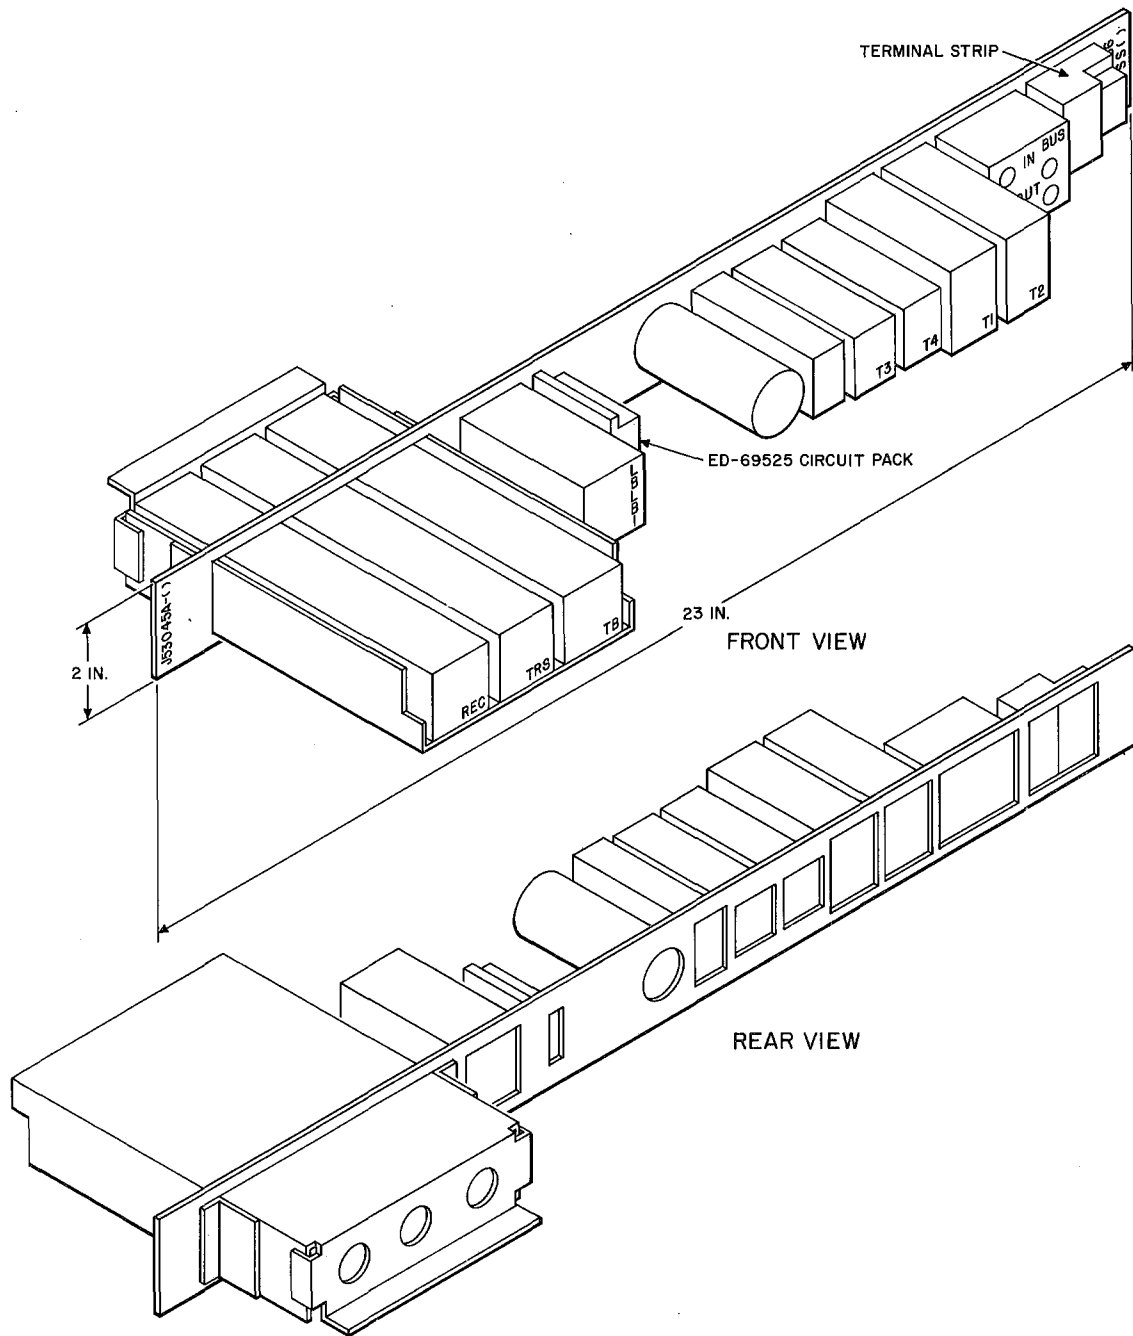

Fig. 1—Terminating Unit
2.02 Transmission lines may be checked from a serving central office test center by applying -48 volts dc to the simplex leads of the line to operate a loop-back relay in the terminating unit (Fig. 1). The loop-back circuit is capable of operating over the simplex leads of 1500-ohm (maximum) transmit and receive loops using -44 to -52 volts dc. All components of the loop-back circuit, except the loop-back relay, are on a plug-in circuit pack (ED-69524) so that the loop-back maintenance feature may be provided on an optional basis by the terminating unit.
2.16 The wired-in signaling circuit pack assembly (Fig. 1) is part of the ac or dc signaling circuit. It contains part of the detection circuit for inward signaling. A circuit pack arrangement is used to facilitate maintenance.